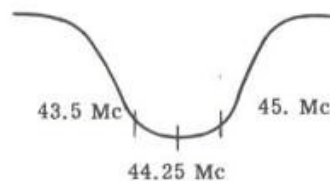

Fig. 30
1. Feed the Mega-Sweep signal to point "D" (pin 5 of the 6AU6 3rd video IF) and adjust T5 until the 44.25 Mc peak appears symmetrically between the 43.5 and 45 Mc markers. See Fig.30 .